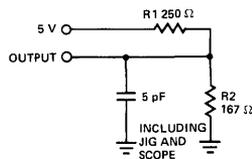

Figure 1b
3. Transition is measured at steady state High level -500 mV or steady state Low level $+500$ mV on the output from the 1.5V level on the input with loads shown in Figure 1b.
6. See Figure 1b for t_{HZ}.
5. Transition is measured at steady state HIGH level -500 mV or steady state LOW level $+500$ mV on the output from the 1.5V level on inputs with load shown in Figure 1b.